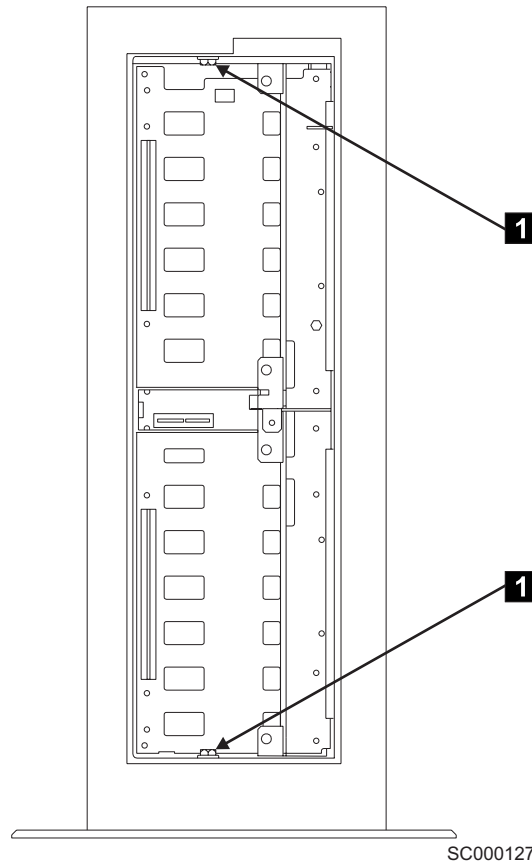

Figure 72. Removing the frame from a 2104 Model TS4 (2)
2. At the back of the 2104 Model TS4, loosen the two back mounting screws **1**, as Figure 72 shows.